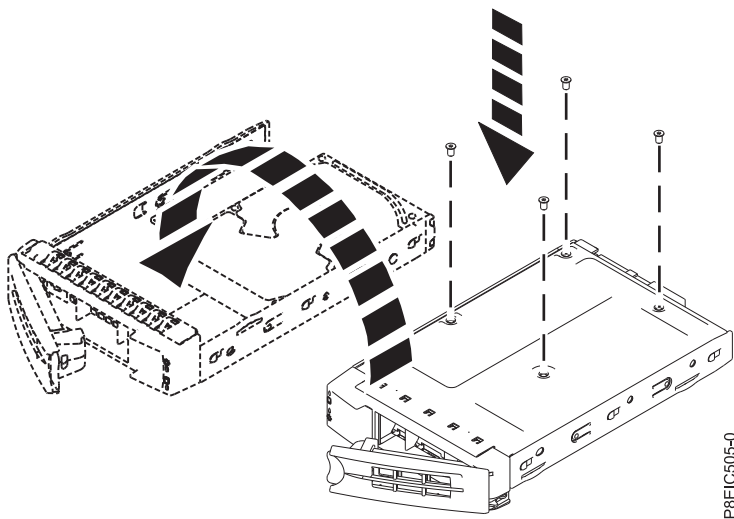

Figure 60. Mounting the 2.5 inch drive in the tray
- A 2.5 inch drive must be positioned at the rear of the tray. While you hold both the drive and the tray, turn the tray over. Fasten the drive to the bottom of the tray with four screws, as shown in Figure 60.